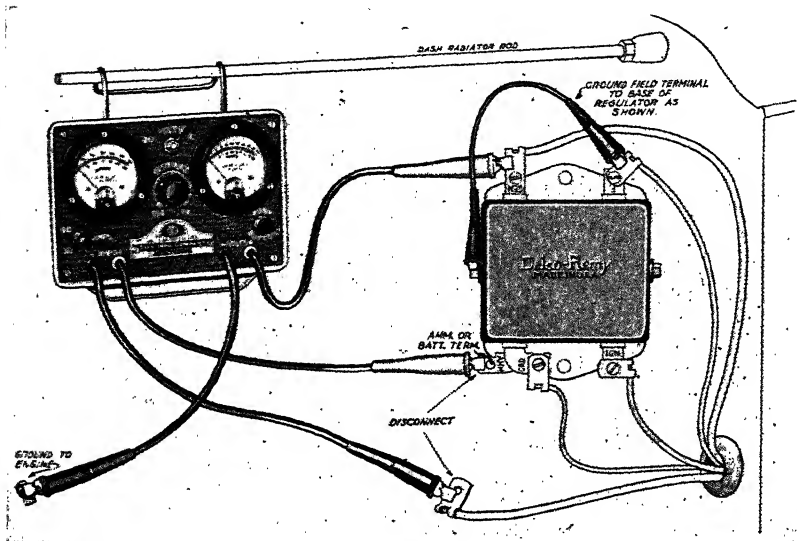

Fig. 14. Connection for Testing Generator Output with Volt-Ampere Tester
Checking the Generator with a Volt-Ampere Tester. Before checking the generator, the generator charging circuit and ground circuit should be checked. Connect the volt-ampere tester, as shown in Fig. 14. Disconnect the lead from the battery (Batt.) or am-
meter (Amm.) terminal of the regulator, connecting the positive ammeter lead to the battery or ammeter terminal of the regulator and the negative ammeter lead to the disconnected battery or ammeter lead. Connect the positive (Red) voltmeter lead to the generator (Gen.) terminal of the regulator, and ground the negative voltmeter lead (Black) to the vacuumatic spark control tube at the distributor. Set engine speed for maximum generator output (approximately 30 to 35 miles per hour). Ground the field (F) terminal of the regulator with a jumper lead, as shown in Fig. 14, to eliminate the regulator resistance.